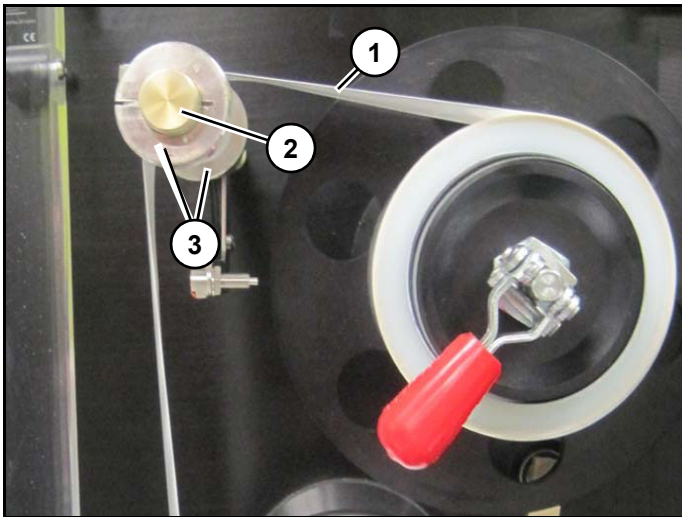

Figure 5
4. Thread tape (1) over seal tape guide spindle (2). Ensure tape is between collars (3). (Figure 5)